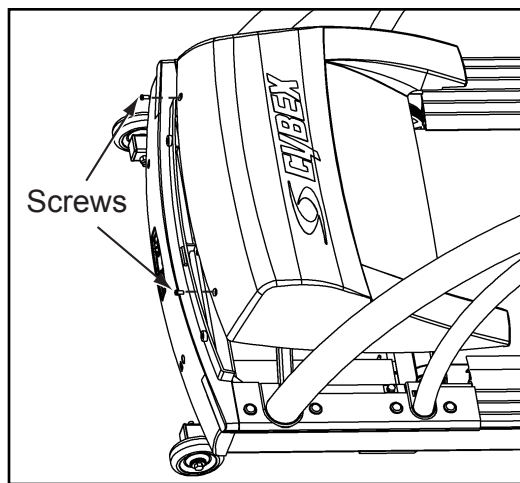

Figure 4
- A.** Using a Phillips head screwdriver, secure the motor cover at the front of the treadmill with two screws provided in bag 2. See Figure 4.